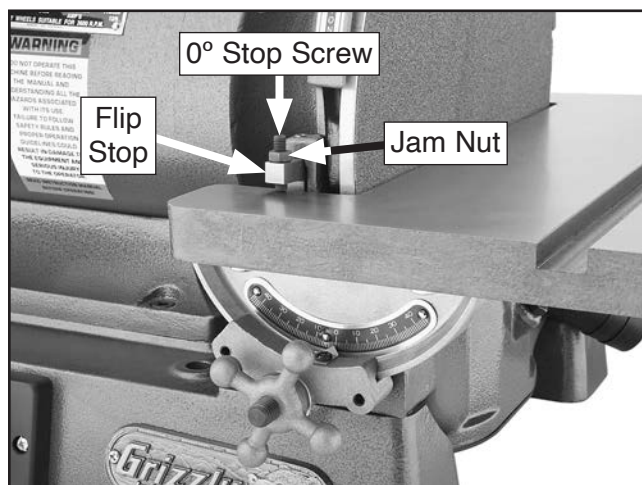

Figure 54. Example of flip stop engaging 0° stop screw.
7. Engage flip stop, then lower table until flip stop contacts 0° stop screw (see **Figure 54**).